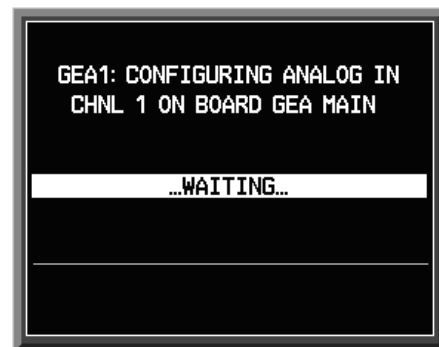

Figure 5-56. Configuration Verification Processing
9. The G1000 will now re-verify the GEA configuration (this may take several minutes). During this time the box shown in Figure 5-56 will be displayed. Do not perform any actions until this is complete.